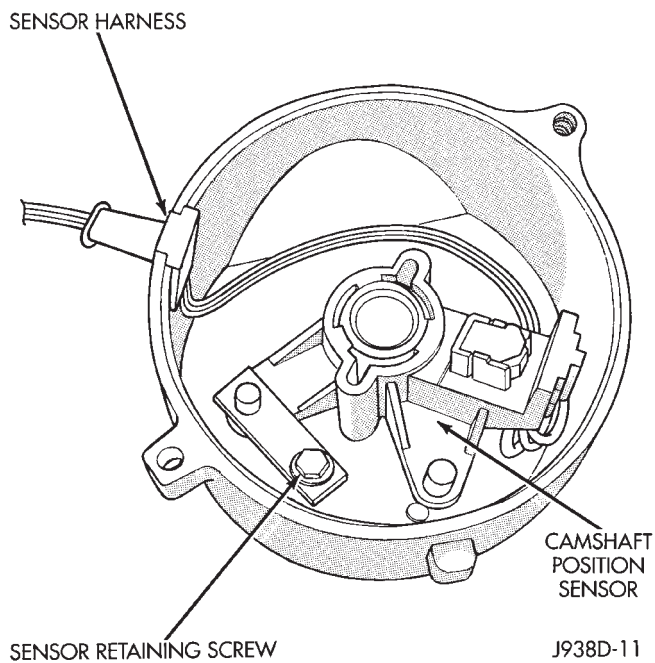

Fig. 3 Camshaft Position Sensor—4.0L Engine
(5) Lightly tap the end of the distributor shaft until distributor gear and thrust washer are removed.
(6) Slide the distributor shaft out of the distributor housing.
(7) Remove the camshaft position sensor mounting screw and positioning arm (Fig. 3).